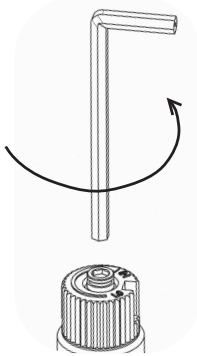

Fig.2
- 12) Insert a 5/32" or 4mm Allen wrench into the hexagonal key-way of the screw (Fig. 2), rotate it counter-clockwise until it is free and extract it.